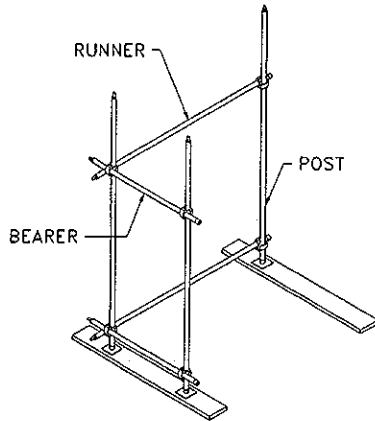

FIGURE 2
2. Insert another post into a base and secure – this will make up the end of the scaffold. Attach the first two (2) bearers transversely directly above the runners keeping the clamps of the runner and bearer as close as possible. Note: the bearers should be at least 4" but not more than 12" longer than the post spacing. See Figure 2